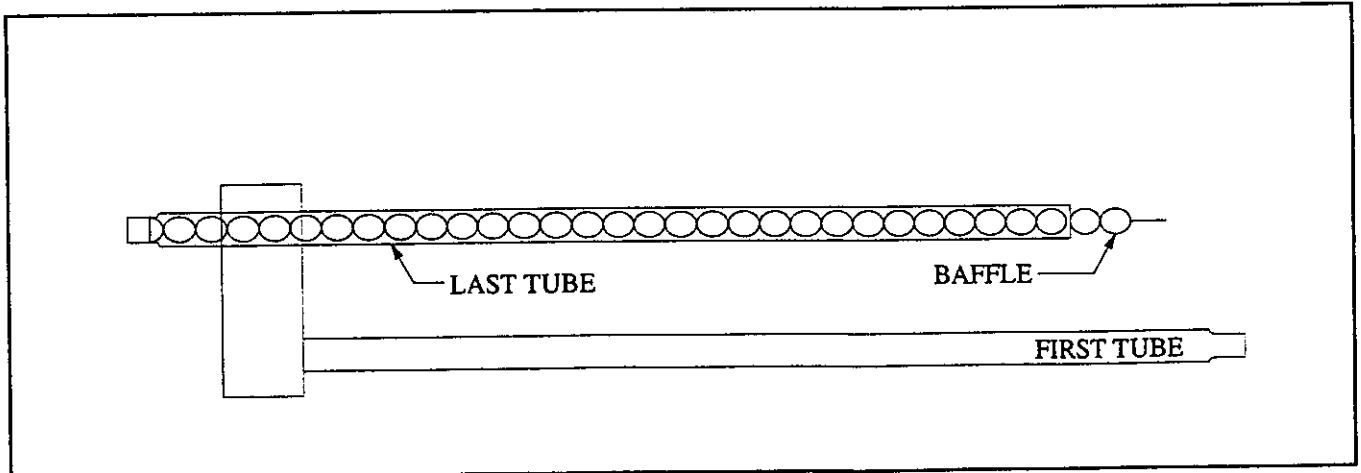

Figure 1-11
- e. These models utilize one or two baffles which must be installed in the last radiant tubes (see Figure 1-11). All baffles must be in the vertical position.